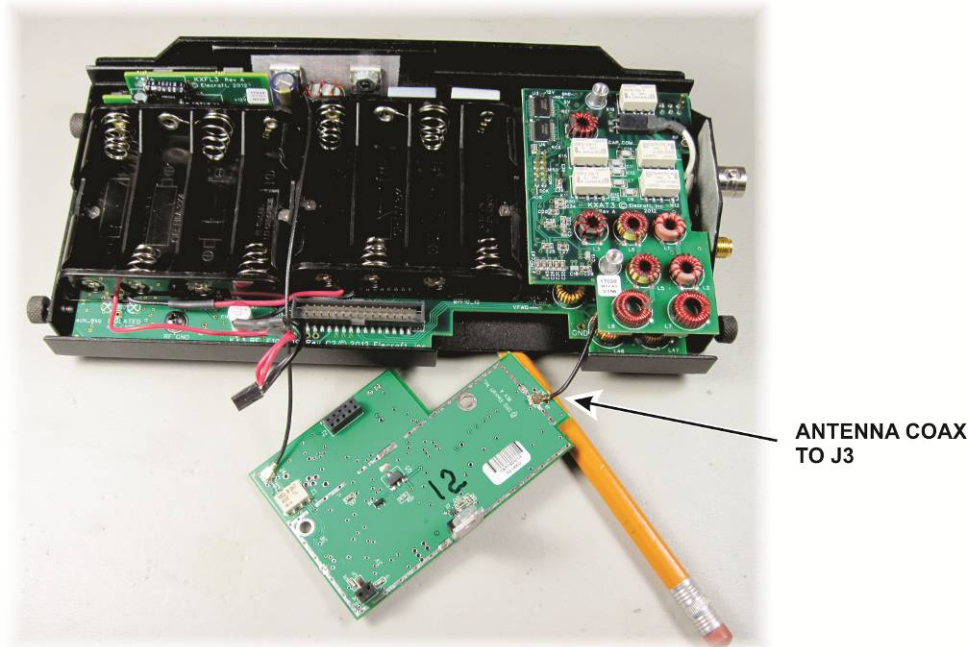

Figure 21. Attaching the Antenna Coax to the KX3-2M or 4M Board.
- Connect the antenna coax to the ANT connector (J3) on the KX3-2M or 4M board as shown in Figure 21.